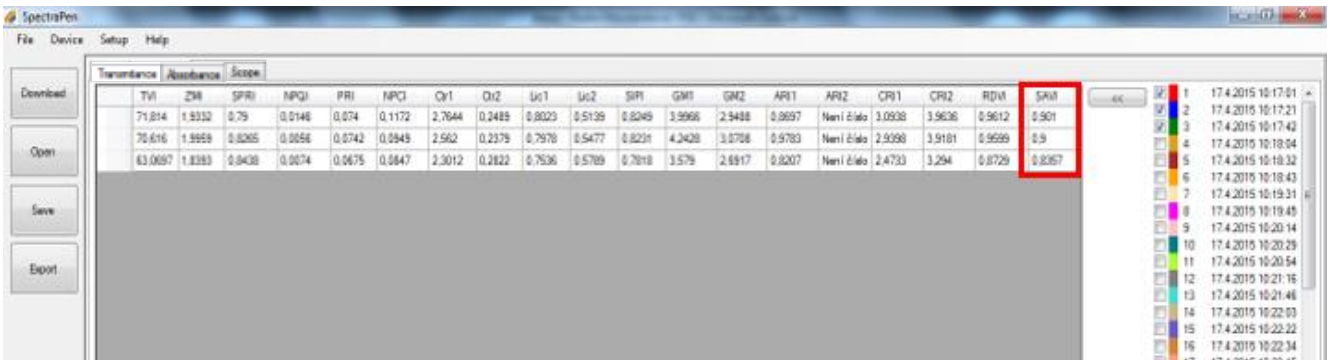

Fig. 42 Downloaded data with newly defined index.
5. The new index appears in the selected bookmark in the data (Fig. 42).